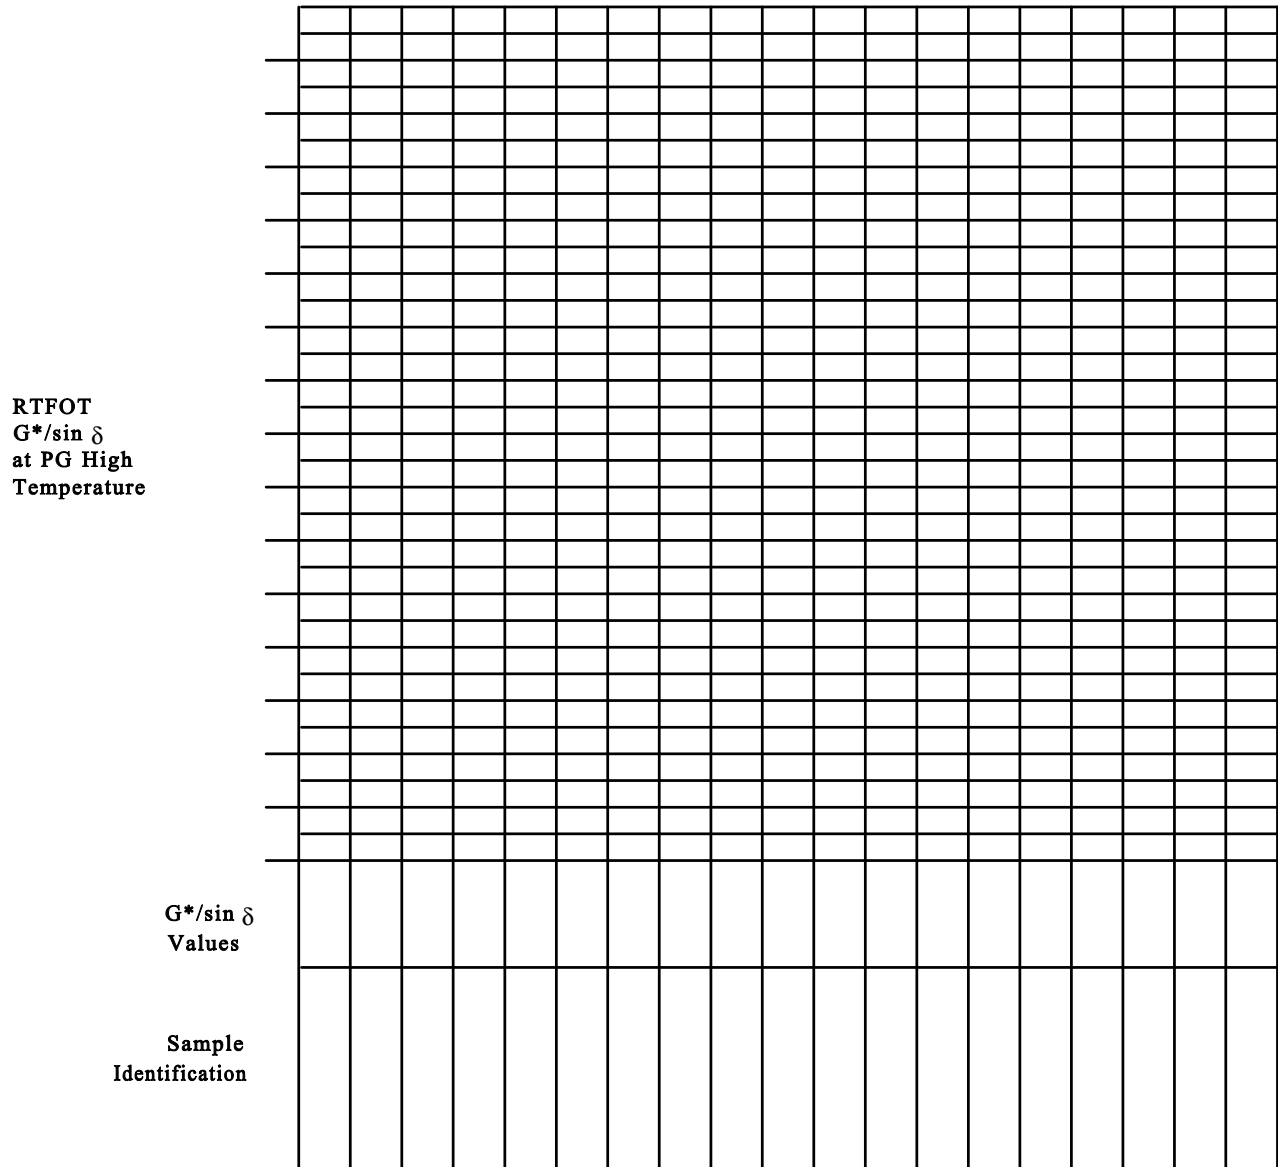

Figure 1—Asphalt Binder Statistical Process Control Chart
- 2.4 On the y-axis, locate and label the value of 2.20 and draw a line horizontally across the graph. Label the line Specification Limit. (Use Figure 1, “Asphalt Binder Statistical Process Control Chart,” for plotting purposes.)
- 3.1 Use forms similar to Form 1965 and Figure 1, “Asphalt Binder Statistical Process Control Chart,” for project data presentation to determine eligibility for bonus pay factors. Complete more than one form to represent an entire project, if necessary. Continue from form to form as needed. If using forms other than Form 1965 and “Asphalt Binder Statistical Process Control Chart,” the same data must be included. Examples are shown in Figures 2 and 3.